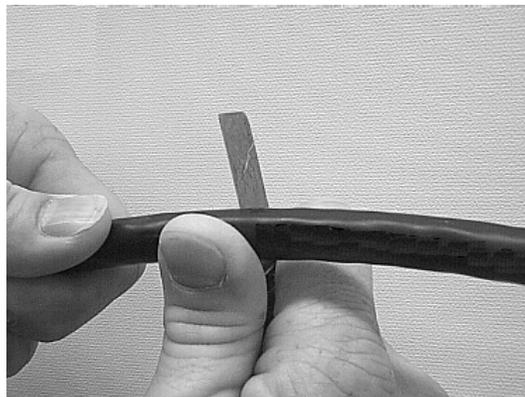

Figure 2 - Ring cut the cable sheath.
4.2 Use a cable sheath knife to ring cut the cable at the measured mark (Figure 2).